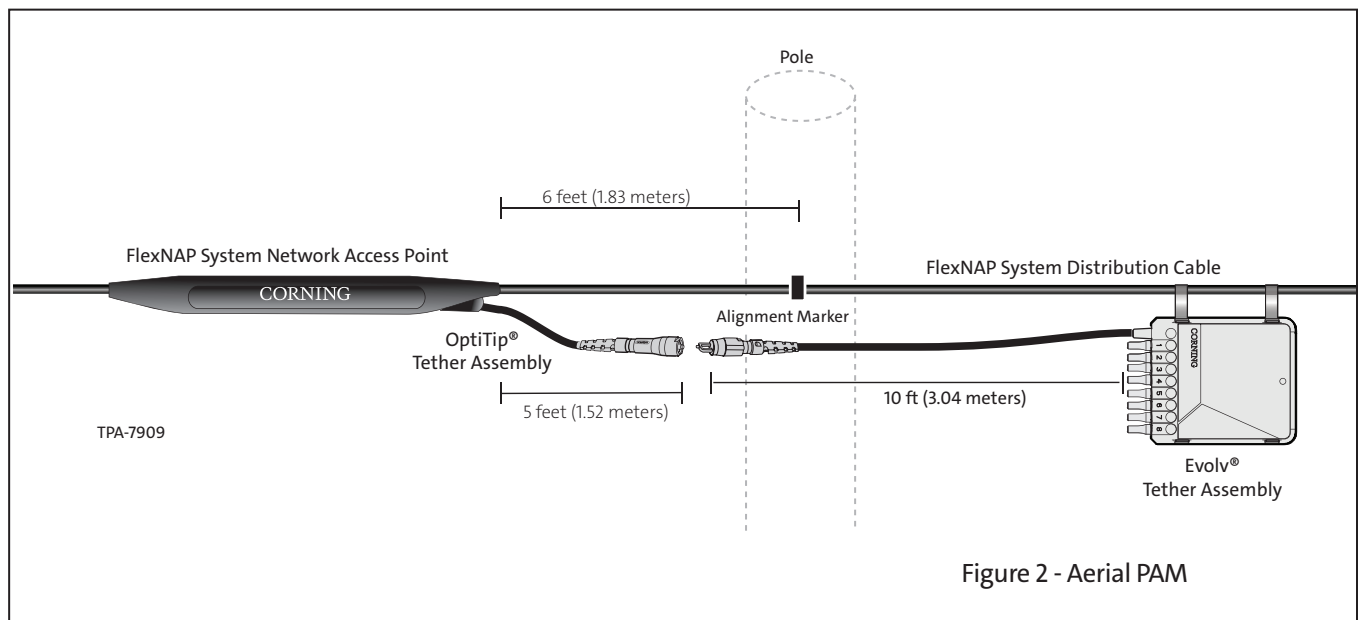

Figure 2 - Aerial PAM
1. Regardless of the installation type, there will be orange pole alignment markers (PAMs) used for proper positioning of the tether access point (TAP) tethers and the cable itself. When the PAMs are properly positioned and assuming the cable pull is towards the central office (CO) from the field side (FS), the TAP itself will hang 1.8 m (6 ft) from the pole towards the CO side. This allows the 1.5 m (5-ft) tether (aerial tether length) at each TAP to reach the pole for connection of the multiport terminal (Figure 2).